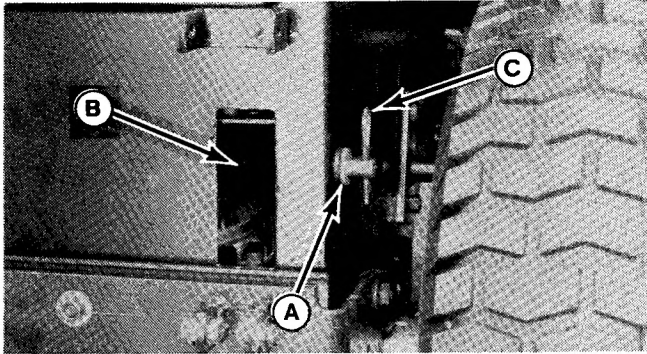

Figure 34.
8. Remove bolt and nut and install pin and washer (A, Figure 34) from outside of wrapper. Secure with lockwasher and nut through knockout panel hole (B). Insert spring clip (C) and tighten nut.
Spring clip (C) and hole must face up and down (as shown in Figure 34) to accept lift arm.